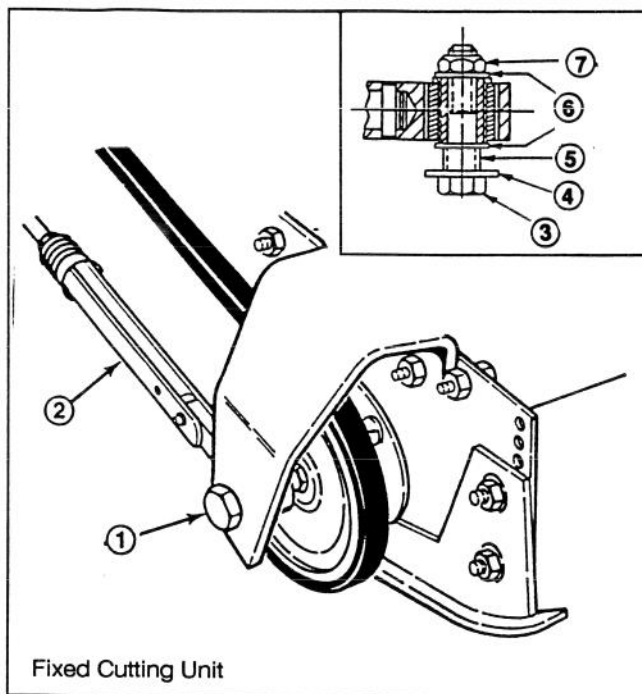

Figure 5
4. On fixed cutting units, secure other end of tension rod to tension bracket with a 3/8-16 x 1.75" screw, .438 I.D. flatwasher, spacer, (2) .375 I.D. flatwashers and a 3/8 - 16 locknut. Position flatwashers and spacers as shown in figure 5 inset.